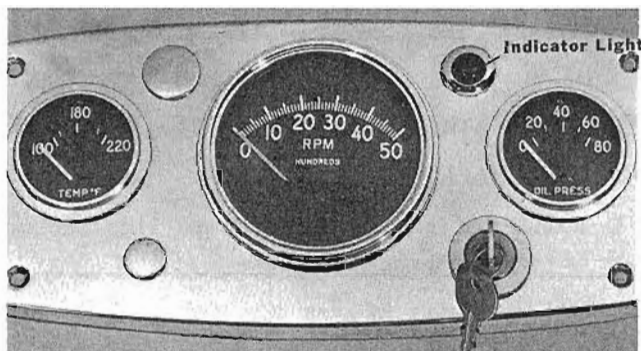
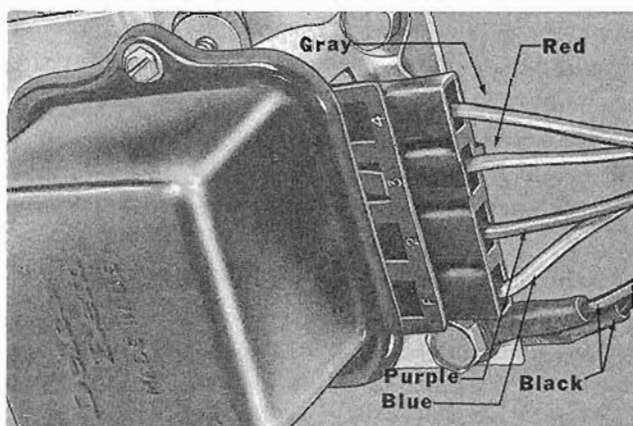
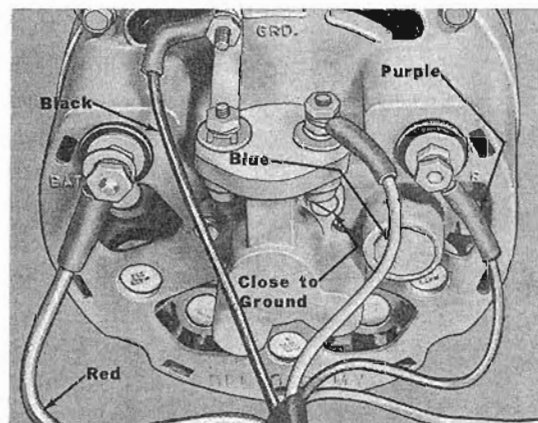

Figure 1
Figure 2
Figure 3
1. Instrument panels, which have a charging indicator light mounted in panel (Figure 1) must use Voltage Regulator No. 32702. This regulator can be identified by number "506" in regulator base. The engine wiring harness is connected to regulator, shown in Fig. 2, and harness must be connected to alternator, shown in Fig. 3.